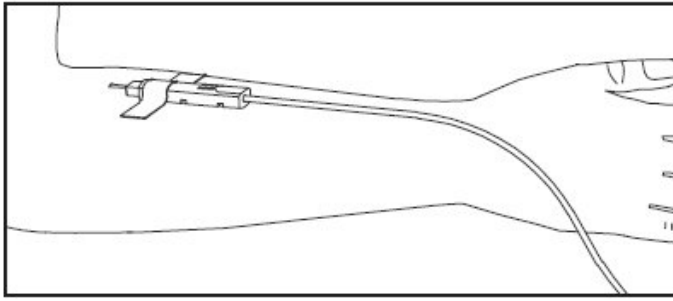

Figure 1
8. When good blood flow is established, slide the DonorCare Needle Guard over the needle hub into the engaged position. Leave the front third of the needle hub exposed for access. Stabilize the front of the needle guard to arm with tape. (see Figure 1)